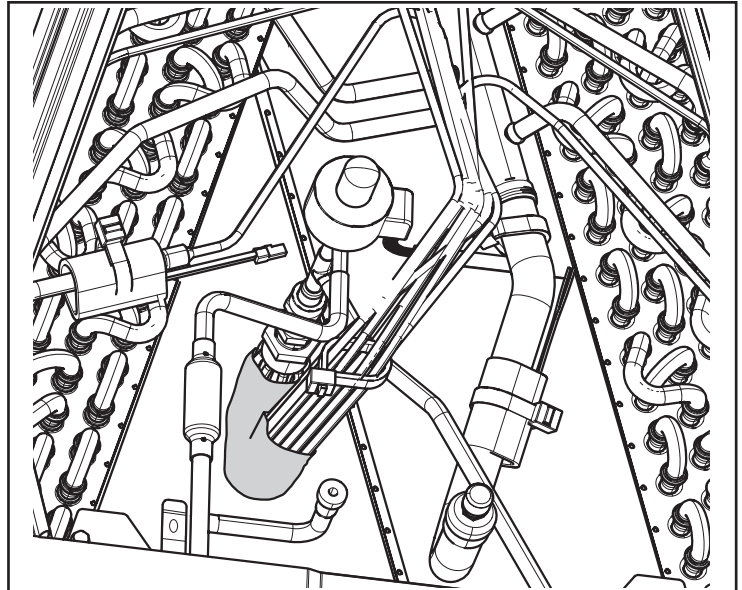

Figure 16 – Put insulation in place
9. With the tubing insulation slid down on the distributor as shown in Figure 16, remove the tape from the coil fitting and put the EEV flow control in place.